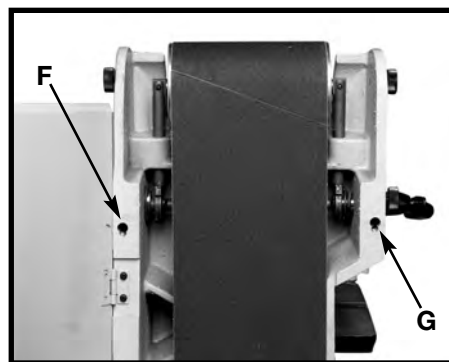

Fig. 22
NOTE: After a long period of time, adjustments may be necessary to maintain the tension and tracking of the sanding belt. If the belt will not hold its tension, tighten the set screw (G) Fig. 22. If the belt will not hold its tracking, tighten the set screw (F) Fig. 22.